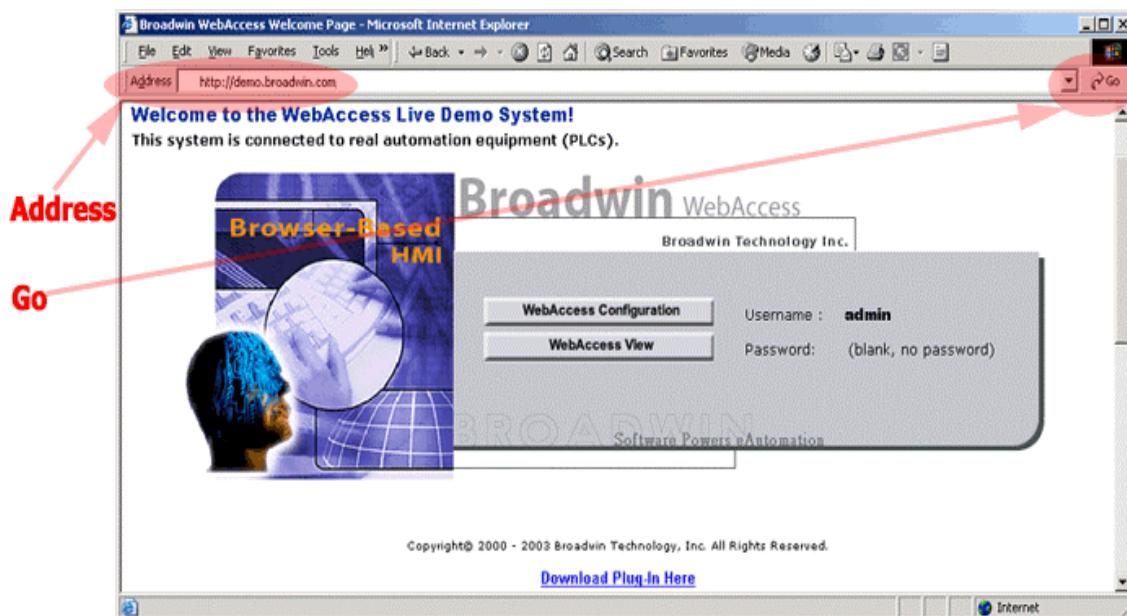

Figure 3-1 – Customized “Home” page for the DEMO showing Internet Explorer Web Browser - Address Bar
2. Enter the IP address or URL into the "Address Bar" (Figure 3-1).